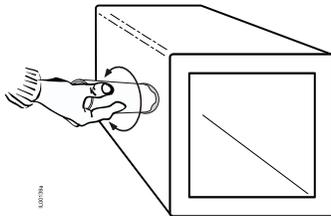

FIG. 1
**STEP 1.** Use the "cookie" cutter to make a neat 2-inch (51 mm) hole in the plenum (Fig. 1). It may be necessary to first cut the outside jacket with a utility knife to prevent tearing of the outside jacket. After the hole is cut, be sure to remove any excess fiberglass in the opening. For square the best position is usually in the side of the duct as shown in Figure 1, but it can go on any side.